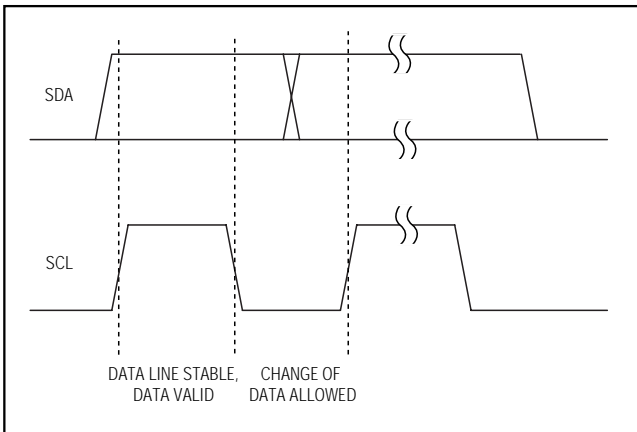
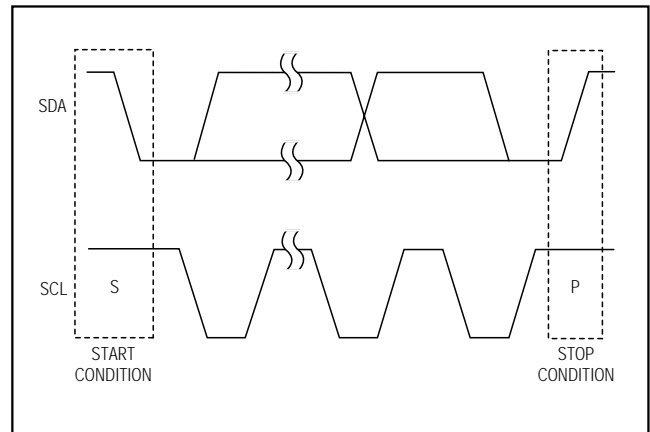
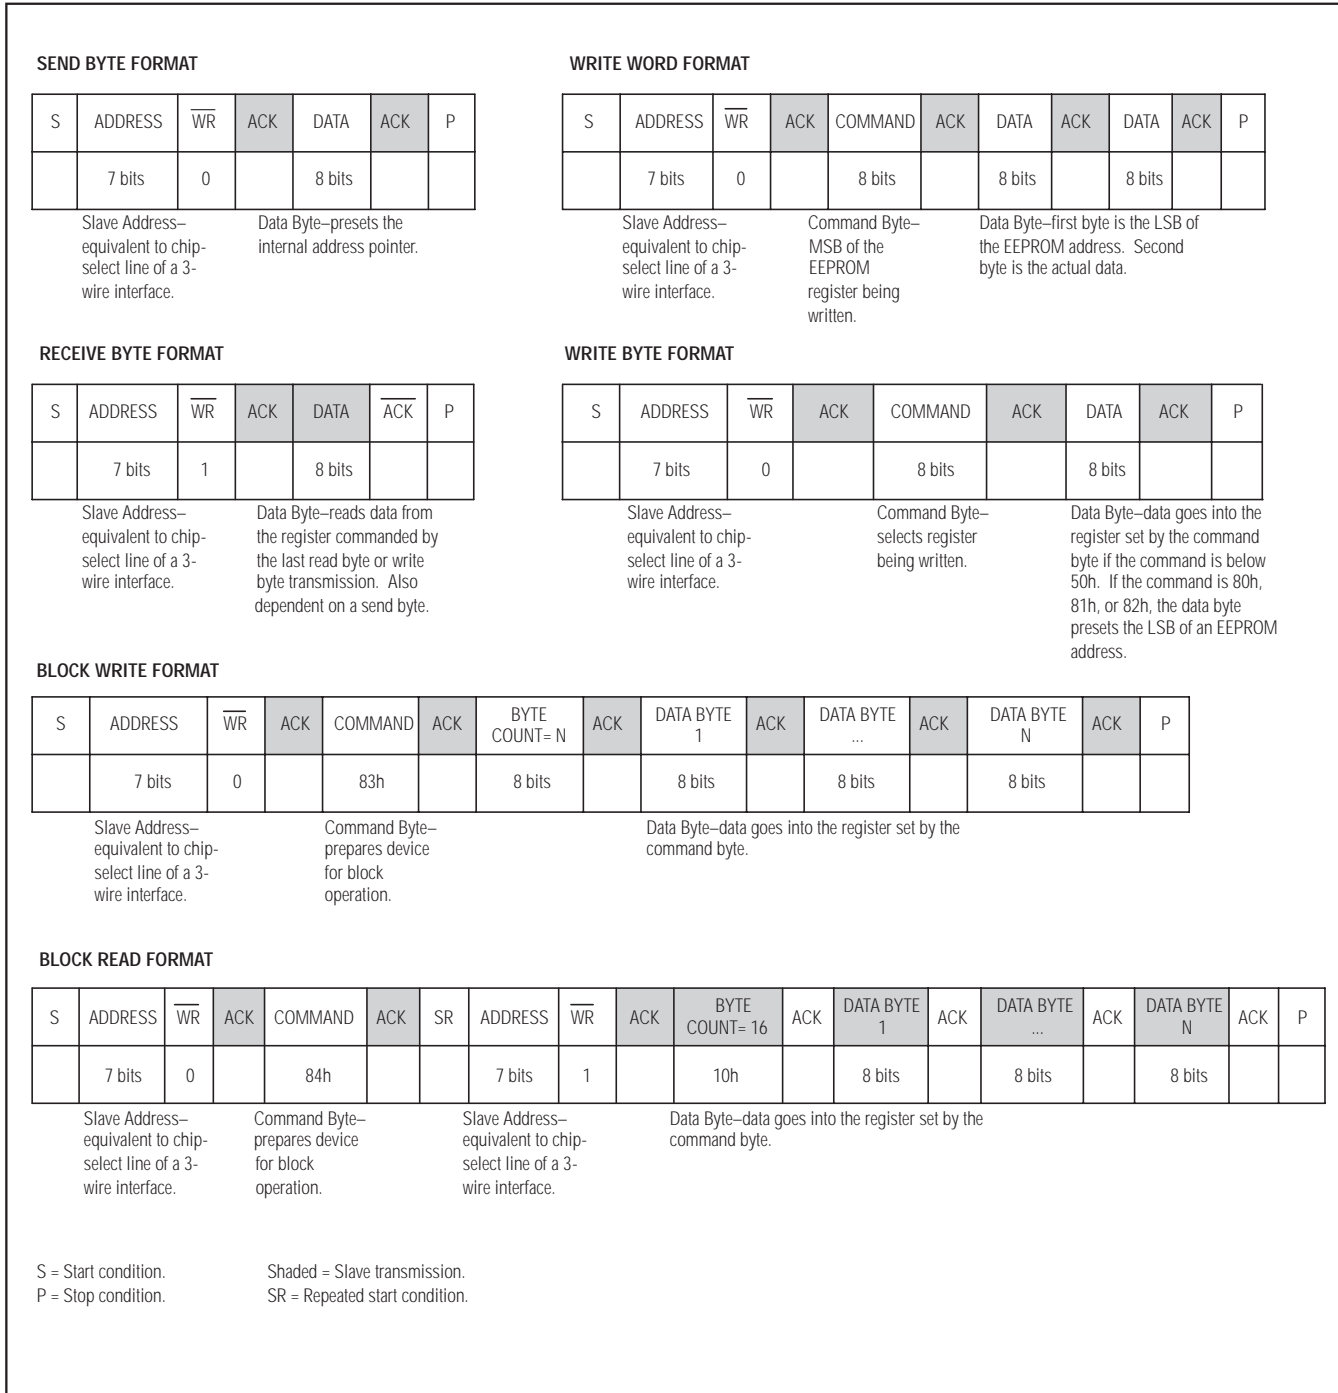

Figure 3. Bit Transfer
Figure 4. Start and Stop Conditions
Figure 7. SMBus/I2C Protocols
Each clock pulse transfers one data bit. The data on SDA must remain stable while SCL is high (Figure 3), otherwise the MAX6872/MAX6873 register a START or STOP condition (Figure 4) from the master. SDA and SCL idle high when the bus is not busy.
Both SCL and SDA idle high when the bus is not busy. A master device signals the beginning of a transmission with a START (S) condition (Figure 4) by transitioning SDA from high to low while SCL is high. The master device issues a STOP (P) condition (Figure 4) by transitioning SDA from low to high while SCL is high. A STOP condition frees the bus for another transmission. The bus remains active if a REPEATED START condition is generated, such as in the block read protocol (see Figure 7).
A REPEATED START (SR) condition may indicate a change of data direction on the bus. Such a change occurs when a command word is required to initiate a read operation (see Figure 7). SR may also be used when the bus master is writing to several I2C devices and does not want to relinquish control of the bus. The MAX6872/MAX6873 serial interface supports continuous write operations with or without an SR condition separating them. Continuous read operations require SR conditions because of the change in direction of data flow.
The send byte protocol allows the master device to send one byte of data to the slave device (see Figure 7). The send byte presets a register pointer address for a subsequent read or write. The slave sends a NACK instead of an ACK if the master tries to send an address that is not allowed. If the master sends 80h, 81h, or 82h, the data is ACK. This could be start of the write byte/word protocol, and the slave expects at least one further data byte. If the master sends a stop condition, the internal address pointer does not change. If the master sends 84h, this signifies that the block read protocol is expected, and a repeated start condition should follow. The device reboots if the master sends 88h. The send byte procedure follows:
The write byte/word protocol allows the master device to write a single byte in the register bank, preset an EEPROM (configuration or user) address for a subsequent read, or to write a single byte to the configuration or user EEPROM (see Figure 7). The write byte/word procedure follows:
The block write protocol allows the master device to write a block of data (1 to 16 bytes) to the EEPROM or to the register bank (see Figure 7). The destination address must already be set by the send byte or write byte protocol and the command code must be 83h. If the number of bytes to be written causes the address pointer to exceed 45h for the configuration register or configuration EEPROM, the address pointer stays at 45h, overwriting this memory address with the remaining bytes of data. The last data byte sent is stored at register address 45h. If the number of bytes to be written exceeds the address pointer FFh for the user EEPROM, the address pointer loops back to 00h, and continues writing bytes until all data is written. The block write procedure follows:
The receive byte protocol allows the master device to read the register content of the MAX6872/MAX6873 (see Figure 7). The EEPROM or register address must be preset with a send byte or write word protocol first. Once the read is complete, the internal pointer increases by one. Repeating the receive byte protocol reads the contents of the next address. The receive byte procedure follows:
The block read protocol allows the master device to read a block of 16 bytes from the EEPROM or register bank (see Figure 7). Read fewer than 16 bytes of data by issuing an early STOP condition from the master, or by generating a NACK with the master. The send byte or write byte protocol predetermines the destination address with a command code of 84h. The block read procedure follows: